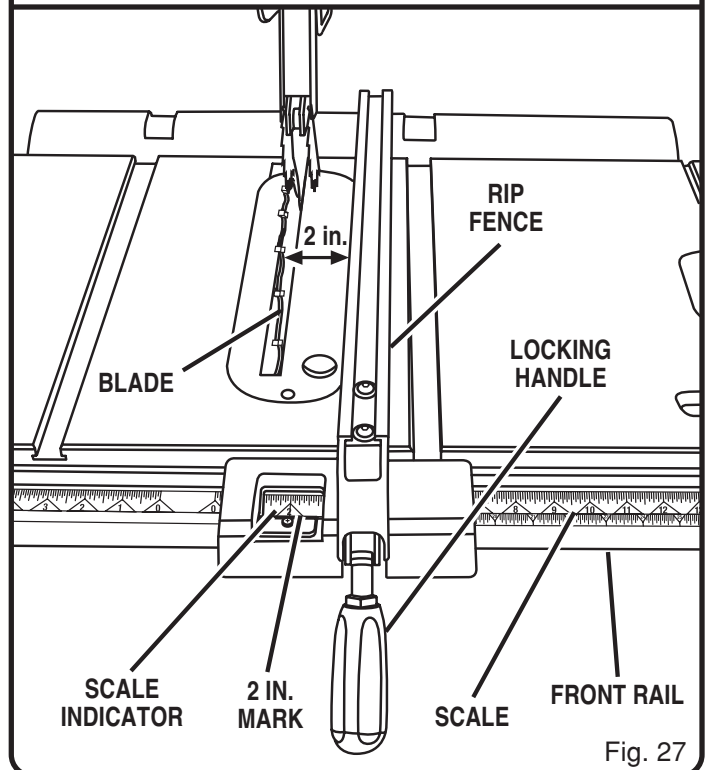

Fig. 27
- Loosen the screw on the scale indicator. See Figure 27.